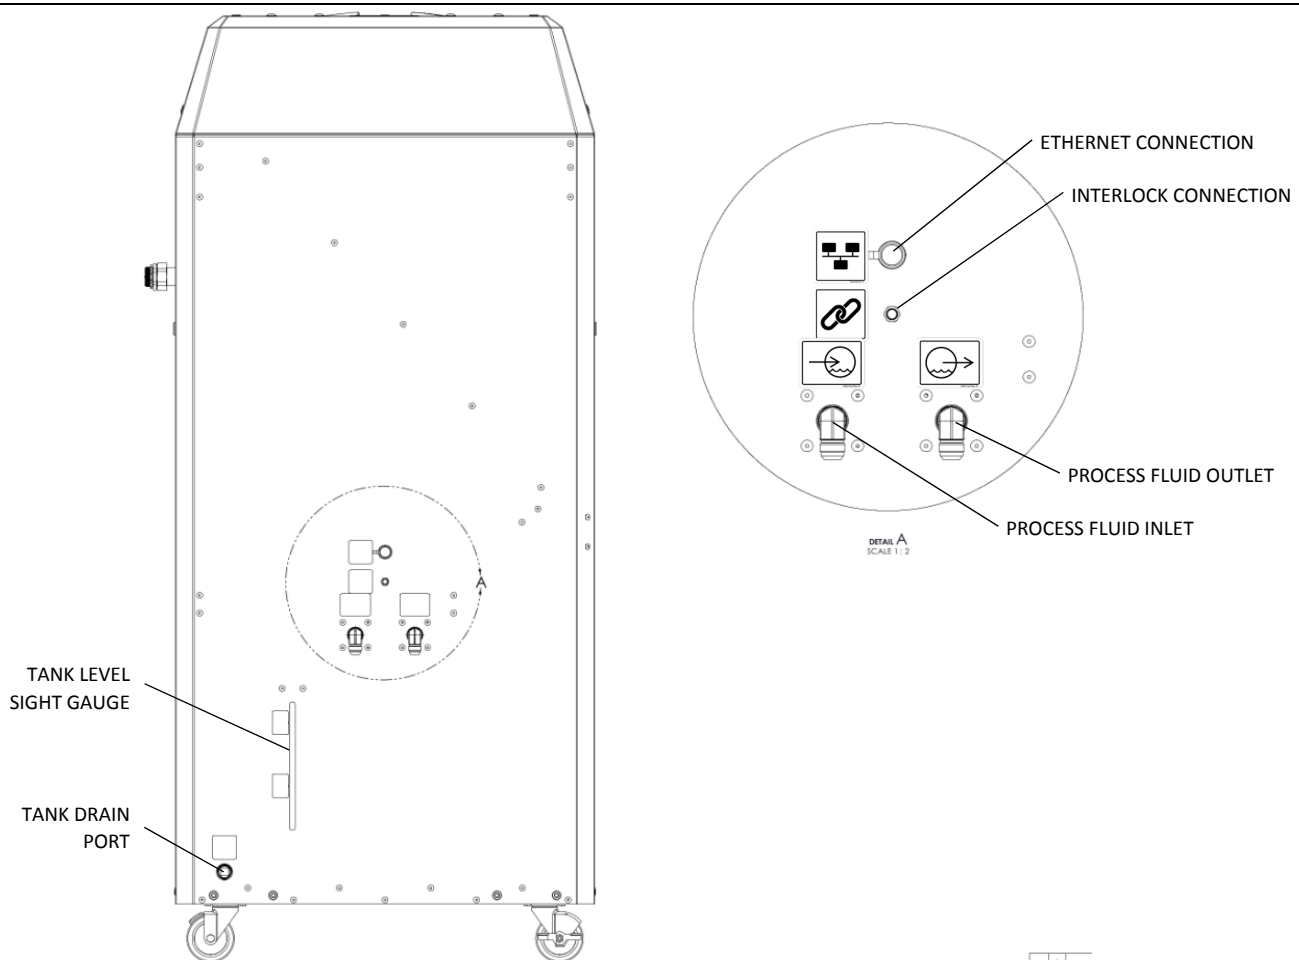

Figure 10: Chiller Plumbing & Electrical Connectivity
The chiller is equipped with a standard 4-pin male M12 Eurofast® connector for the interlocks (refer to Figure 10). The pin-out for the interlock connector is shown on the Logic Page of the Electrical Prints in Appendix B.
The chiller's plumbing connections are located on its plumbing I/O side (refer to Figure 10). The chiller has the following plumbing connections:
3. Fill the reservoir with the manufacturer's recommended fluid while monitoring the *Tank Level Sight Gauge* (Refer to Figure 10). The reservoir should be filled until the level is near the High Tank Level label. The reservoir capacity is 10.5gal (40L).